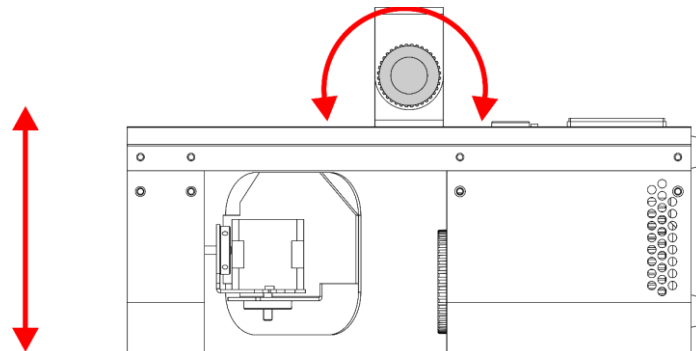

Fig. 07
- 01) Turn the **adjustment screws (03)** counterclockwise to release them.
- 02) Tilt the device at the desired angle (see Fig. 07).
- 03) Turn the **adjustment screws (03)** clockwise to tighten them. Make sure that the device cannot move freely after the **adjustment screws (03)** are tightened.